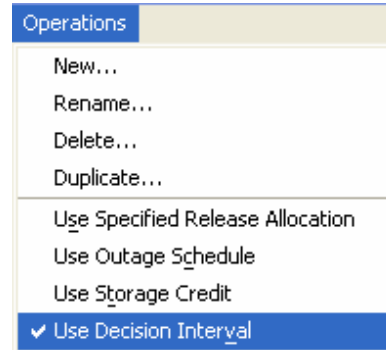

Figure 11.114 Reservoir Editor - Operations Menu, Use Decision Interval
1. Select the **Operations** tab in the reservoir editor. From the **Operations** menu, select **Use Decision Interval** (a check mark will appear as shown in Figure 11.114 to indicate that the Decision Schedule will be used).